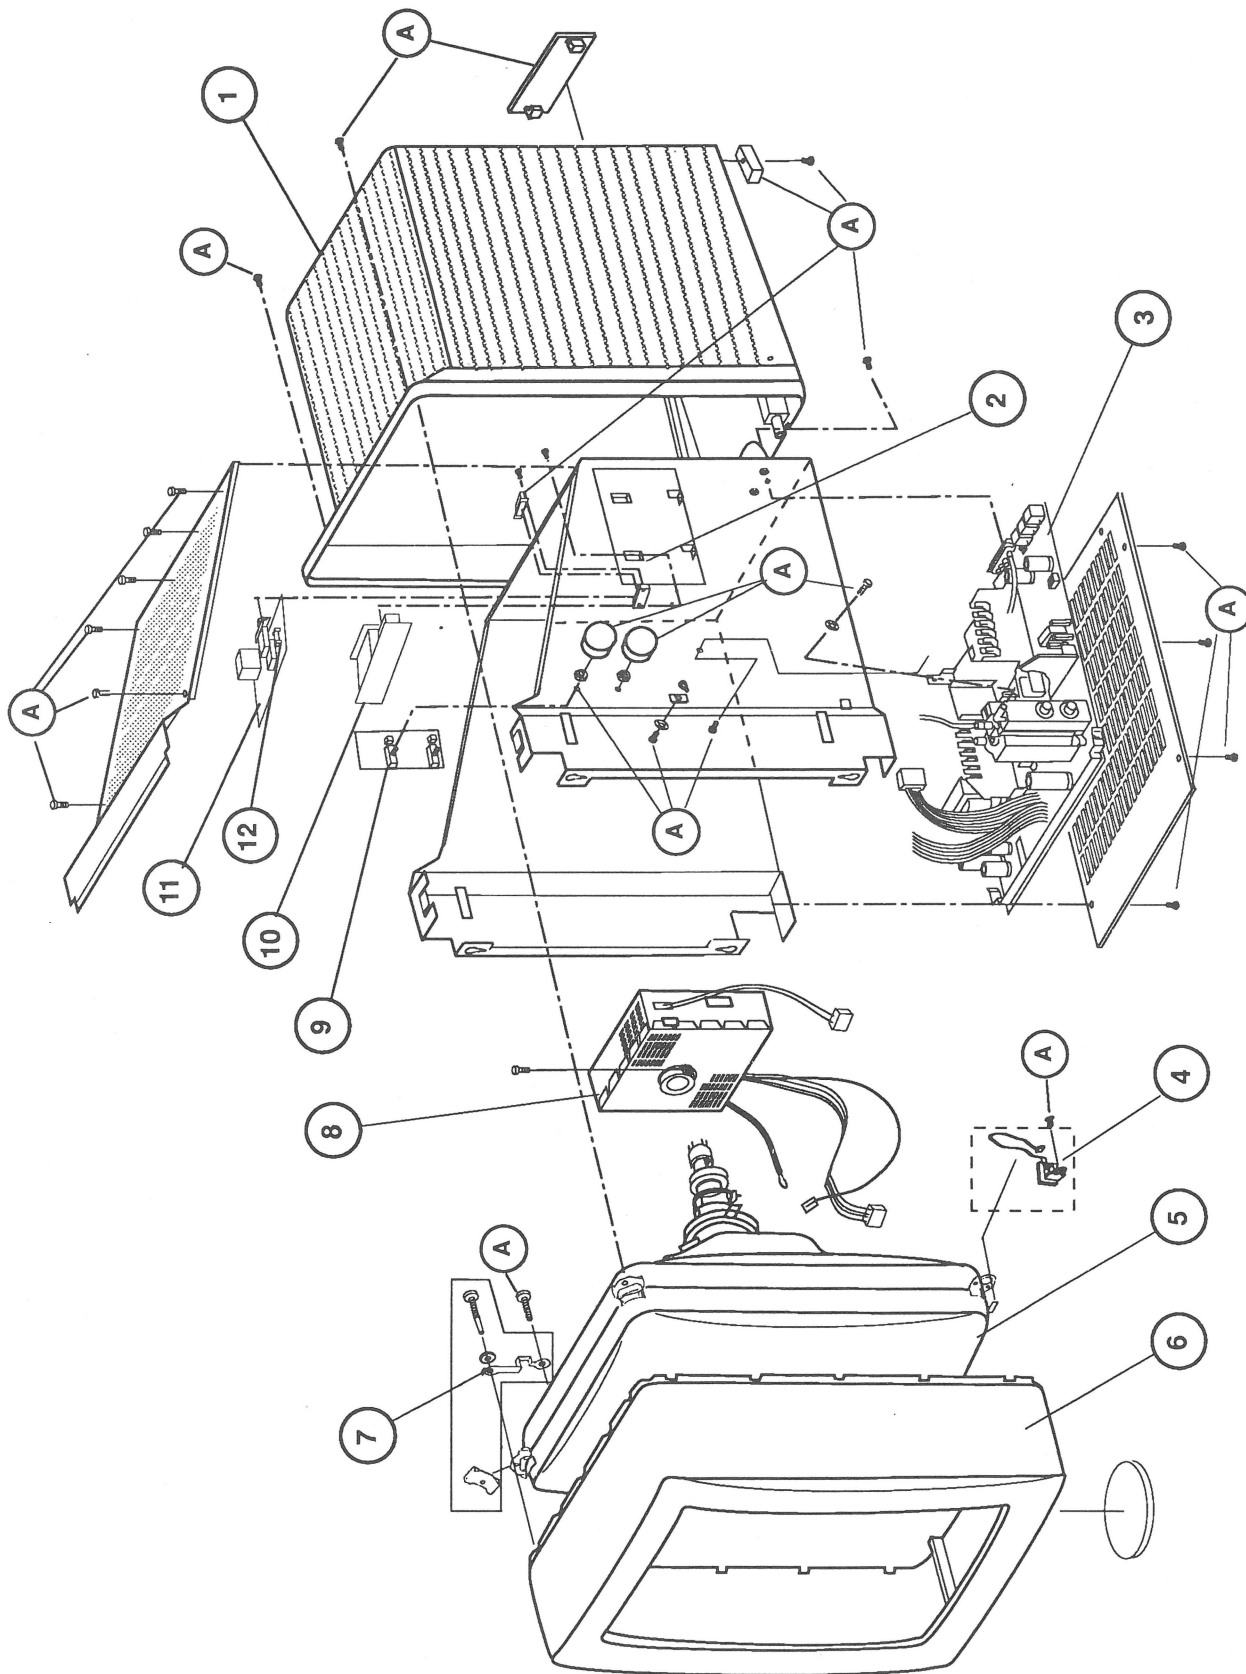

FIGURE 1
Exploded View (Figure 1)
□ MACINTOSH PORTRAIT DISPLAY "SERIES B"—SYSTEM EXPLODED VIEW (Figure 1)
The Screw/Knob Set consists of the items listed below. Items are not available for purchase separately, but are identified as A in Figure 1.
Display Subassemblies (Figure 1)